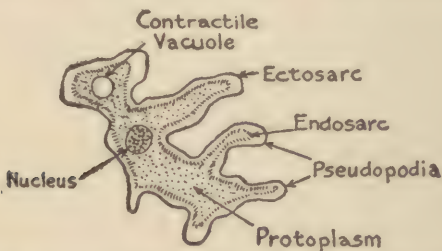

FIG. 39.—THE AMOEBA—A UNICELLED ANIMAL
up of the following parts: (1) an *ectosarc*, (2) an *endosarc*, (3) a *nucleus*, (4) a *contractile vacuole*, (5) *lobate projections*, and (6) *food vacuoles*, all of which are shown in Figure 39. The *ectosarc*, which means *inside flesh*, and the *endosarc*, which means *outside flesh*, are formed of cytoplasm; the *ectosarc* forms a membranous envelope, or skin, which incloses the *endosarc*, or inside flesh. The nucleus, as